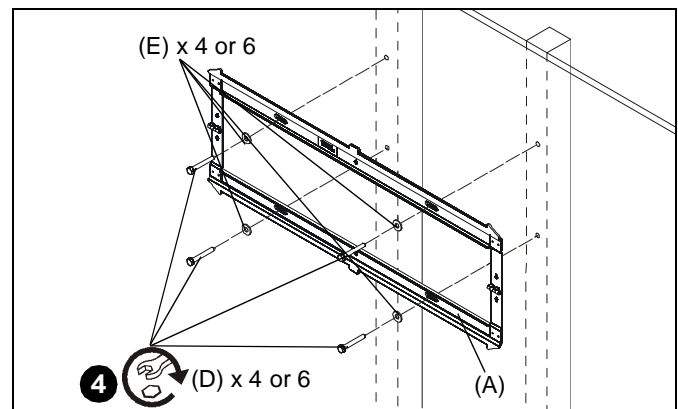

Figure 4
4. Install 5/16 x 2 1/2" hex head cap screws (D) through four flat washers (E), wall plate (A) and into wood studs. (See Figure 4)